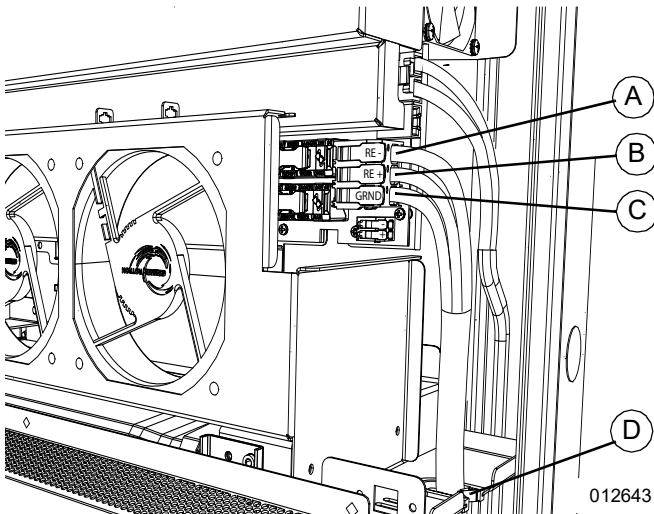

Figure 4-11. REbus Wiring
1. See **Figure 4-11**. Install REbus conductors to their terminal blocks: RE+ to red (B), RE- to black (A).
2. Install equipment grounding conductor to green terminal block (C).
3. If required, route field wiring conductors through the grommet wiring chase baffle (D).